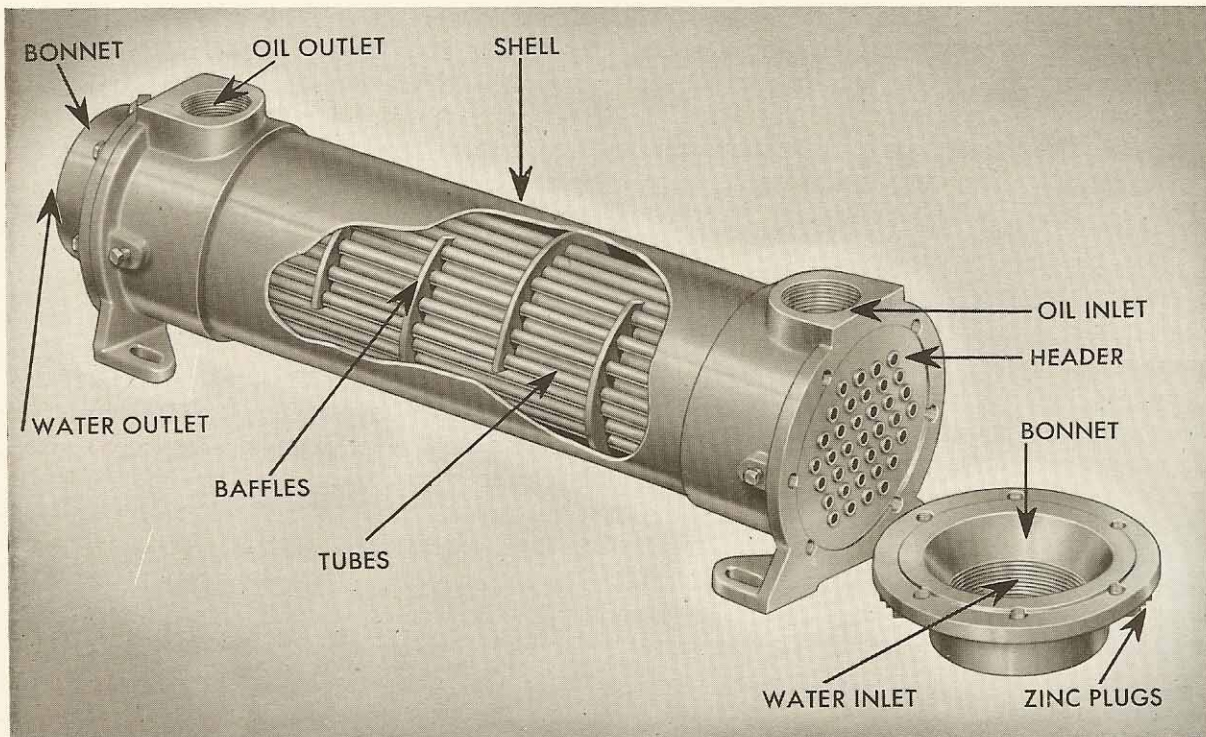

FIGURE 20-6
8. OIL COOLER: The oil passes from the strainers to the oil cooler shown in Figure 20-6. The cooling water goes in one end, through the tubes and out the other end of the cooler. The oil is delivered to the shell of the cooler where it is directed around the tubes. After being cooled, the oil goes directly to the base manifold.